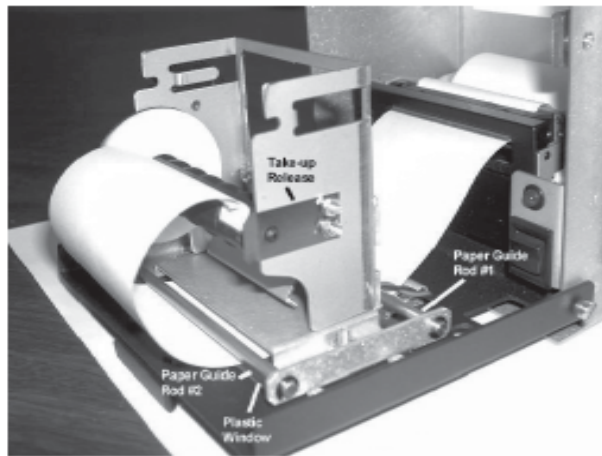

Figure 8-2. Paper Feed Position
6. While holding paper in print mechanism, push front panel switch to **Feed** position (Up). Paper should feed into print mechanism and out the front. Refer to Figure 8.2.